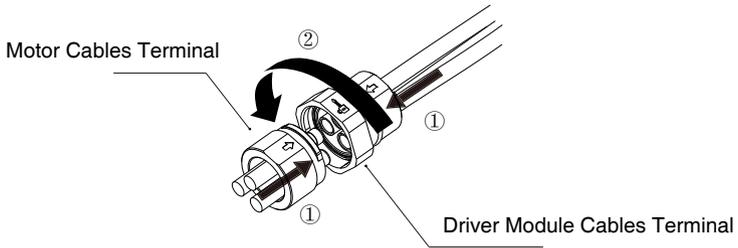

Figure 3-3
Step 3: Connect the motor cables terminal with the driver module cables terminal. Align the arrows ① in the terminals first (refer to Figure 3-3) then plug in. After two terminals are properly connected, lock them by the buckle ring following the direction of arrow ② .